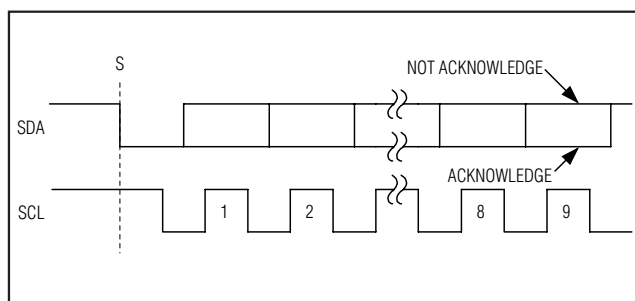

Figure 6. Acknowledge Bits
Data transfers are acknowledged with an acknowledge bit (A) or a not-acknowledge bit ($\bar{A}$). Both the master and the MAX11646/MAX11647 (slave) generate acknowledge bits. To generate an acknowledge, the receiving device must pull SDA low before the rising edge of the acknowledge-related clock pulse (ninth pulse) and keep it low during the high period of the clock pulse (Figure 6). To generate a not-acknowledge, the receiver allows SDA to be pulled high before the rising edge of the acknowledge-related clock pulse and leaves SDA high during the high period of the clock pulse. Monitoring the acknowledge bits allows for detection of unsuccessful data transfers. An unsuccessful data transfer happens if a receiving device is busy or if a system fault has occurred. In the event of an unsuccessful data transfer, the bus master should reattempt communication at a later time.